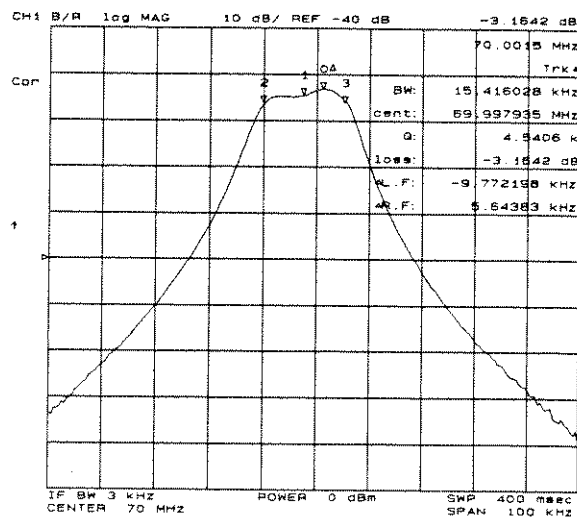

Figure 5-1.
5. Press **(-) (3) (x1)** to enter -3 dB.
The sub-markers appear at a specified level down on both sides of the reference marker and the center of the two sub-markers, as shown in Figure 5-1. The bandwidth (BW), center frequency (cent), Q factor (Q), insertion loss (loss), and left and right hand bandwidth from the center frequency ( $\Delta L.F$  and  $\Delta R.F$ ) are displayed on the upper right of the grid.